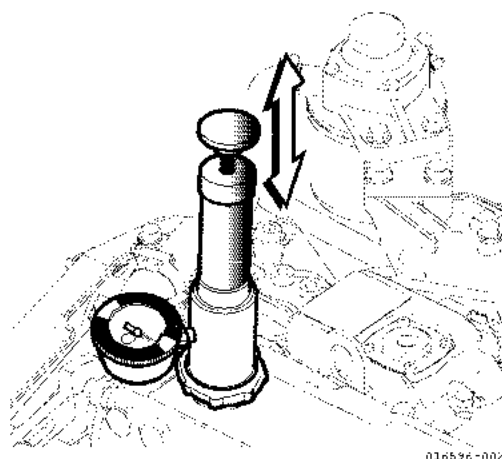

Figure 7-4
- Pump until pressure is 1.45 bar (21 psi) (Figure 7-4).